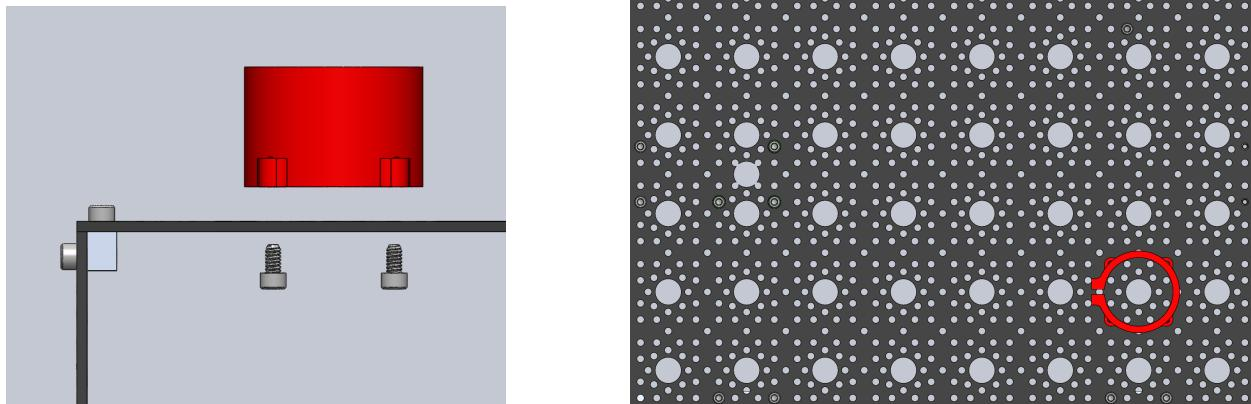

Figure 4: Attach the PVC clamp to top plate
3. **Attach the PVC clamping hub:** Attach the 1-inch PVC bore clamping hub **S24** to the top plate of the body using screws **B1**. Use the location shown in Figure 4.